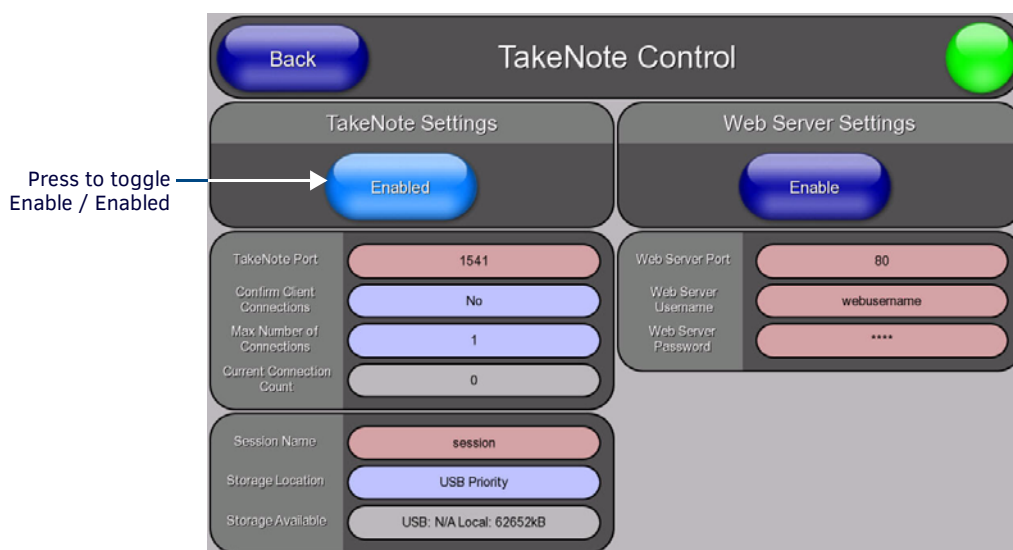

FIG. 89 TakeNote Control page
1. Open the *TakeNote Control* page (FIG. 89):
2. Press **Enable/Enabled** until it toggles to **Enabled** (as shown in FIG. 89).